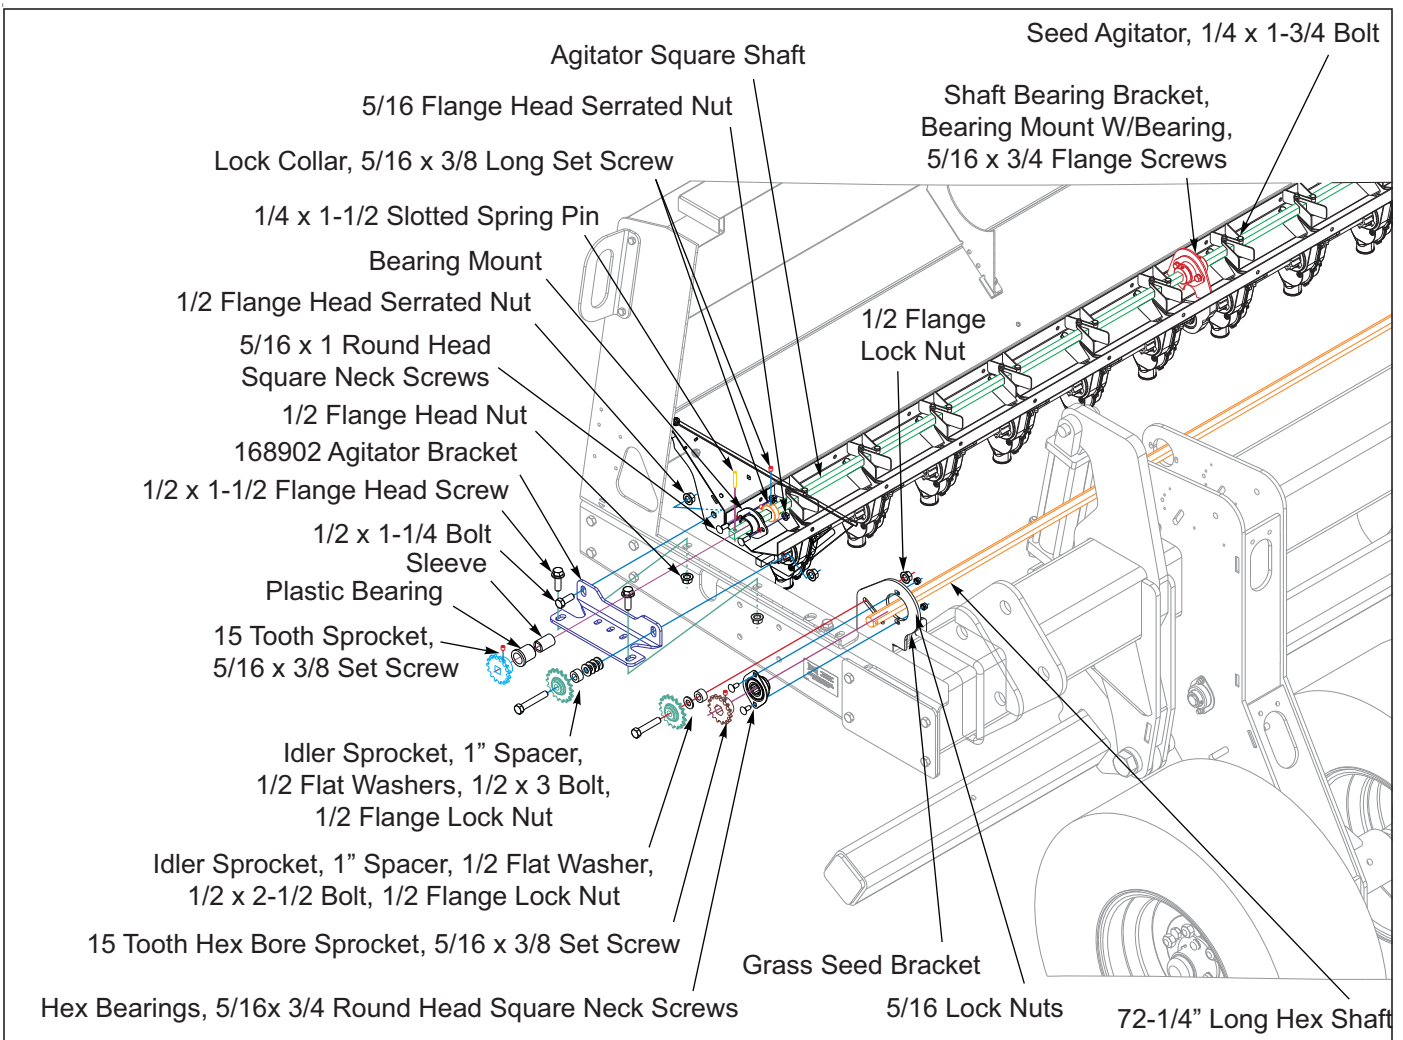

Figure 3-9: Right & Left Grass Seed Brackets
3. Replace the 144127 seed box bracket, with the 168902 agitator bracket on the outer ends of the seed boxes **See Figure 3-9.**